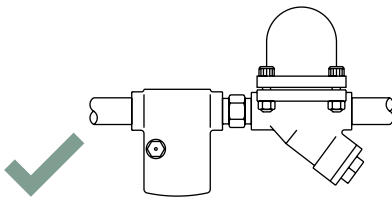

Fig.2 Correct Installation
- 3.4 Install the sensor chamber immediately upstream of the steam trap, ensure the unit is in a horizontal pipeline with the drain plug downwards. Ensure the direction of flow is in accordance with the flow arrow on the body (refer to Figure 2).
- 4.1 Make sure that the sensor chamber has been fitted correctly (see Figure 2, page 9).